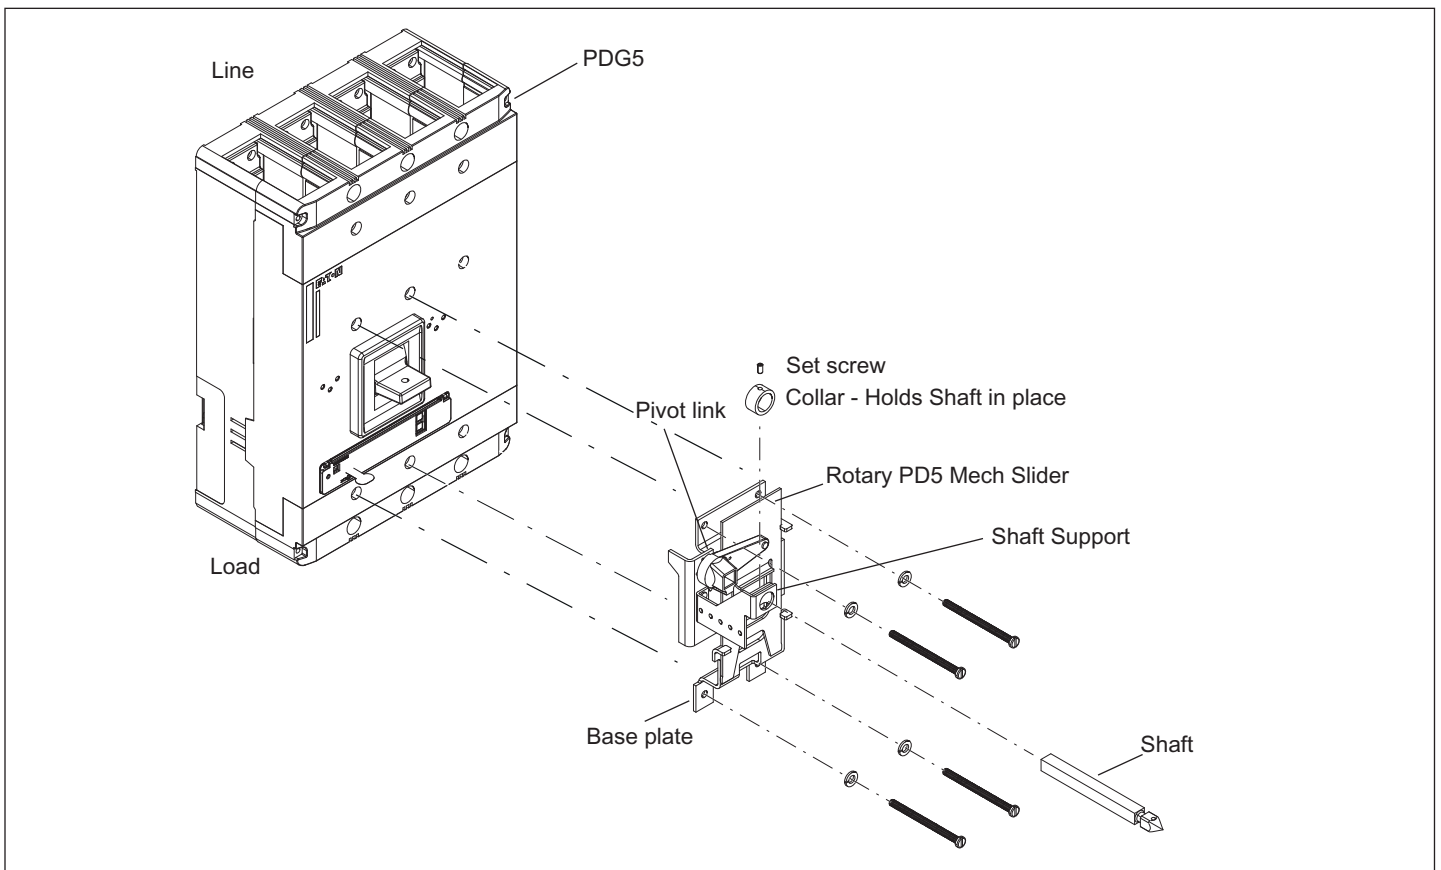

Figure 3. PDG5 Breaker/Mechanism Assembly.
3. Mount the circuit breaker to enclosure using the four (4) 0.3125-18 x 1.25" long screws from the hardware kit . Insert the screws and lock washers into the load and line end circuit breaker mounting holes and tighten securely into the tapped holes from Step 1. (see figure 3).
4. Mount the mechanism on to the circuit breaker, ensuring the slide plate is engaged with the circuit breaker handle . Remove the two (2) breaker cover screws and two (2) load cover screws as shown in Figure 3 and discard the screws. Insert the four (4) 0.250-20 x 3.5" screws and lock washers from the hardware kit through the mounting holes of the mechanism and into the empty cover screw holes of the circuit breaker, as shown in Figure 3.
5. Take the set screw and shaft collar from the hardware kit and insert the set screw into shaft collar . Place the square end of shaft through the shaft support bracket then through the shaft collar and into square opening of die cast pivot link on the operating mechanism attached to the circuit breaker, as shown in Figure 3. Position the shaft collar lightly against the underside of the shaft support collar and torque the set screw between 28-30 in-lbs (3.16-3.39 N•m).